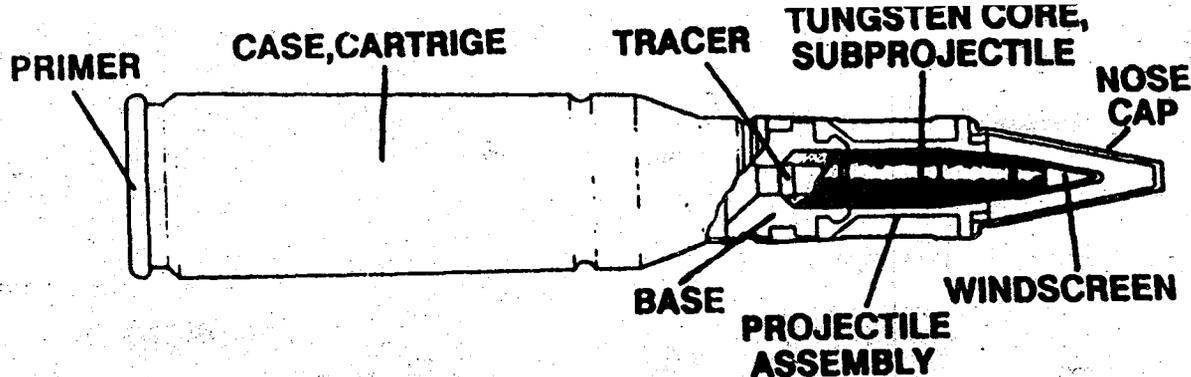

Fig. 3
(1) M791 Armor-piercing, spin-stabilized discarding sabot with tracer. The APDS-T (Figure 3) penetrates lightly armored vehicles. Examples of lightly armored vehicles are BMPs, BMDs, BTRs, BRDMs, ZSUs, and self-propelled artillery.